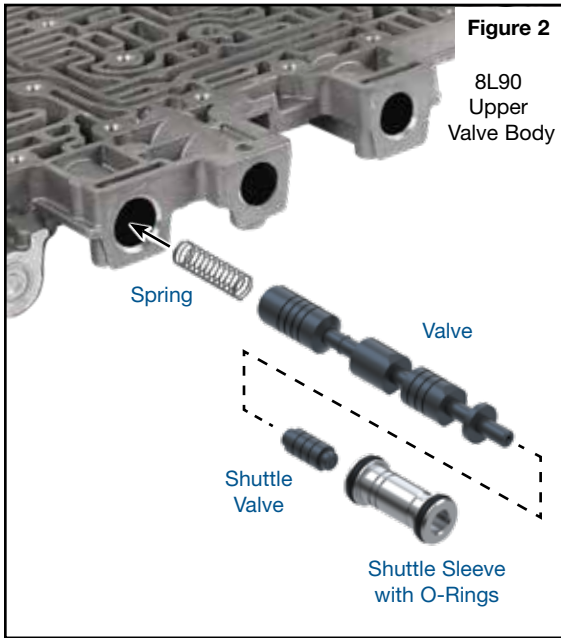

Figure 2
- Install Sonnax spring and pressure regulator valve into the bore (**Figure 2**). Verify the valve fully strokes to the bottom of the bore.